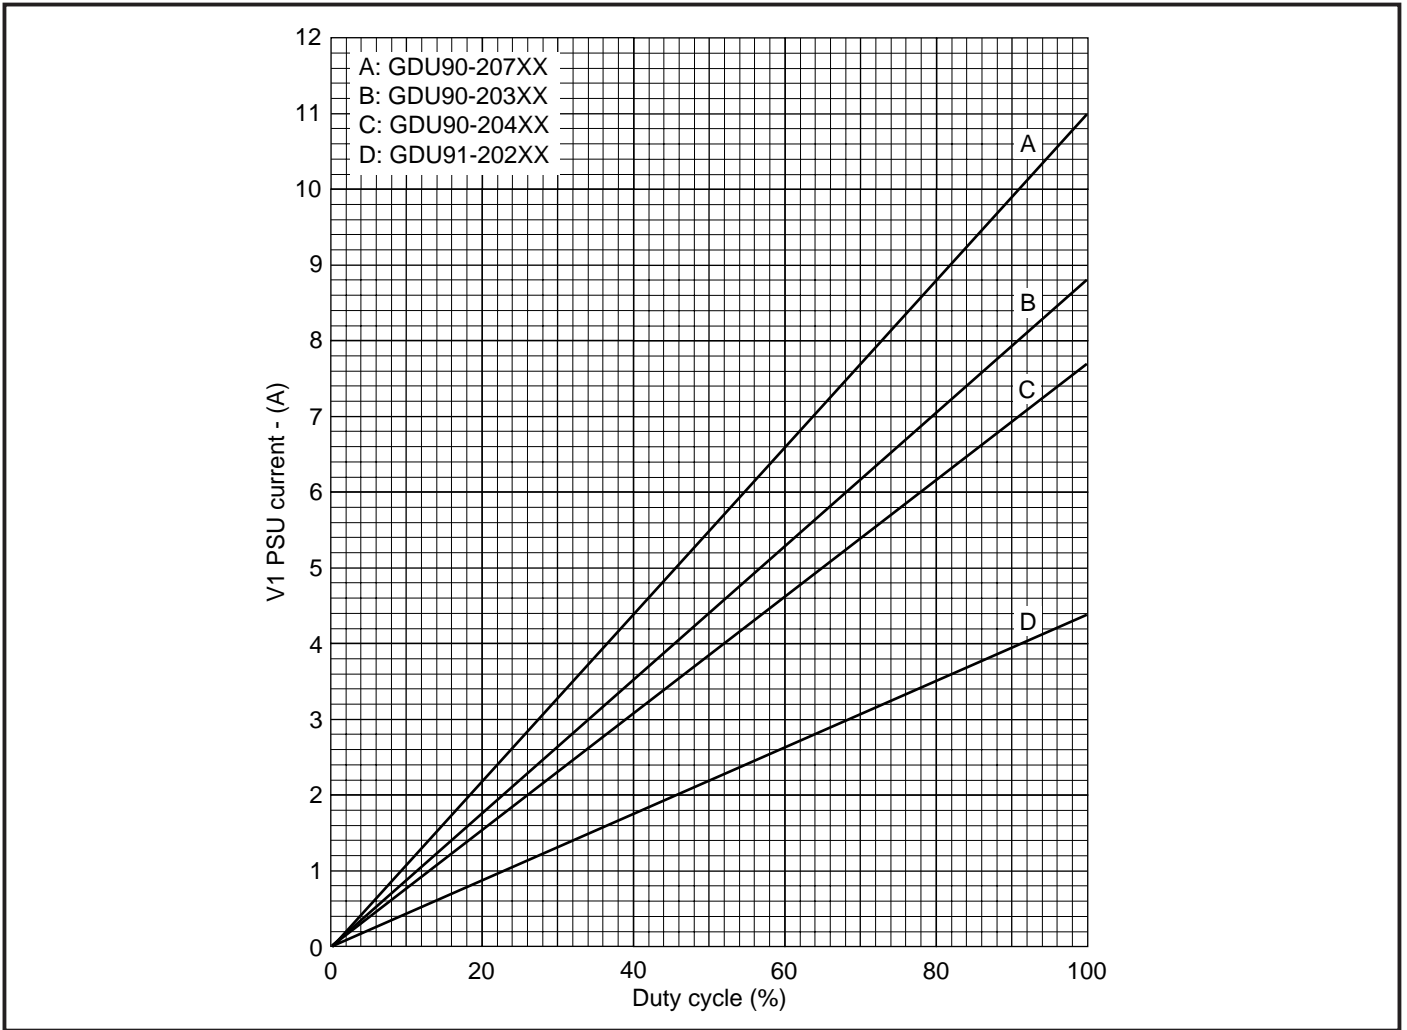

Fig.5 V1 P.S.U. current vs duty cycle
1. From GTO datasheet recommendations for $I_{G(ON)}$ add 10% to calculate the maximum current required from the V1 supply. The average value of current could be lower for reduced duty cycle operation. (See Fig.5, page 4).